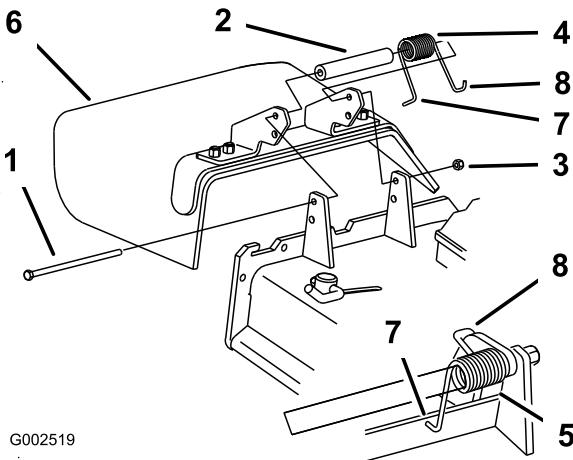

Figure 77
1. Remove the locknut, bolt, spring and spacer holding the deflector to the pivot brackets (Figure 77).
5. Place the **J** hook end of the spring around the grass deflector (Figure 77).